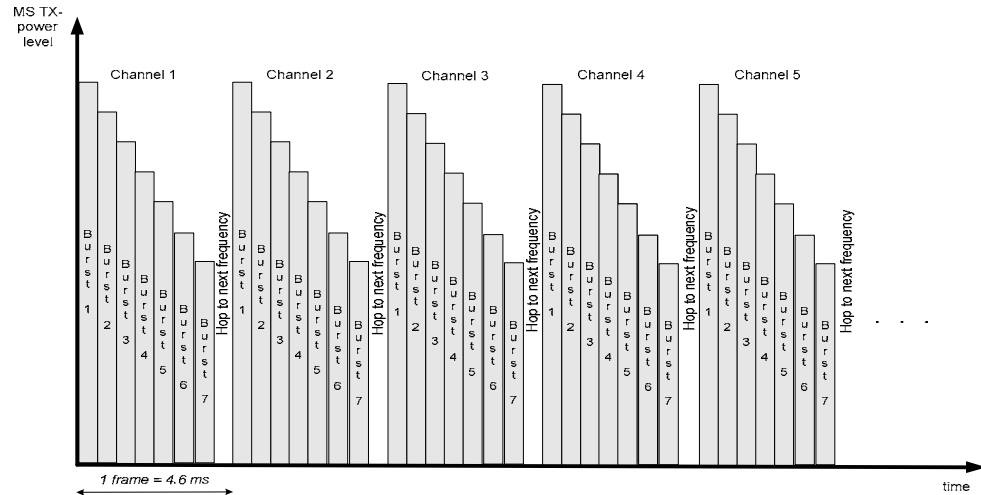

Fig. 8-2 Alignment of measured slots in the TX Calibration measurement
The *TX Calibration* measurement provides the average burst power in up to 50 consecutive frames where the DUT may transmit at different frequencies. The R&S CMU measures the burst power in 7 slots per channel so that in total up to 350 burst power results can be acquired over a measurement time of 50 frame periods (50 x 4.6 ms = 230 ms). The gain in speed is due to the dense alignment of measured slots with different frequencies and powers; see Fig. 8-2 on p. 8.3. The measurement time decreases with the number of frames measured.
2. Define a hopping sequence so that the mobile changes its frequency after each TDMA frame, using the channels 1, 4, 7, ..., 121, 124 (42 different channels). The mobile output power level is according to Fig. 8-2 on p. 8.3.
The frequencies in the measured frames can all be different; they must be set in the *Control* tab of the *Power Configuration* menu (*Frequency List*; see p. 8.4 ff), together with the *Repetition Mode* of the measurement. Moreover, the power can vary from one slot to another. A typical MS output power ramp is shown in Fig. 8-2 below.
The measurement must be triggered. In the example of Fig. 8-2 above a power trigger (trigger source *RF Power* or – preferably – *IF Power*) can be used. As an alternative, provide an appropriate external trigger signal.
The analyzer frequency changes after each TDMA frame (see Fig. 8-2 on p. 8.3); the output transmitter frequency of the mobile under test must be set accordingly. To measure a sequence of less than 50 frames, any of the frequencies in the list can be set to *Off*. The R&S CMU always measures in consecutive frames; the total measurement time is n times 4.6 ms where n is the number of frequencies that are not switched *Off* and 4.6 ms is the TDMA frame duration.